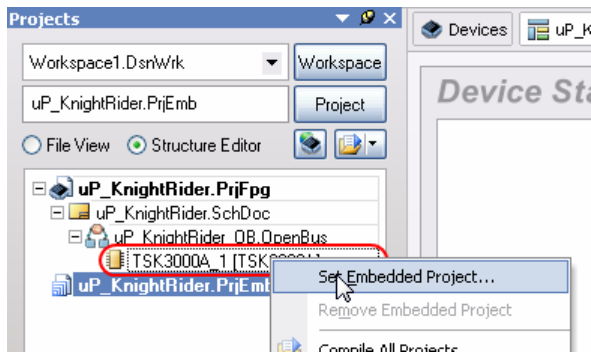

Figure 13. Make the embedded project a child of the FPGA project.
33. To make the embedded project a child of the FPGA project, switch the Projects panel to the **Structure Editor** mode, then right click on the icon for the TSK3000A processor and select **Set Embedded Project** from the menu, as shown in Figure 13.